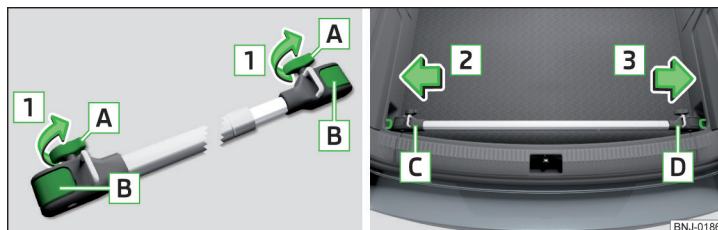

Fig. 118 Install crossmember: Loosen the screws and unlock brackets / place crossmember on the lashing eyelets
- To install complete detach the **A** screws in the direction of arrows **1** and pull out partially. The brackets **B** are unlocked » Fig. 118.